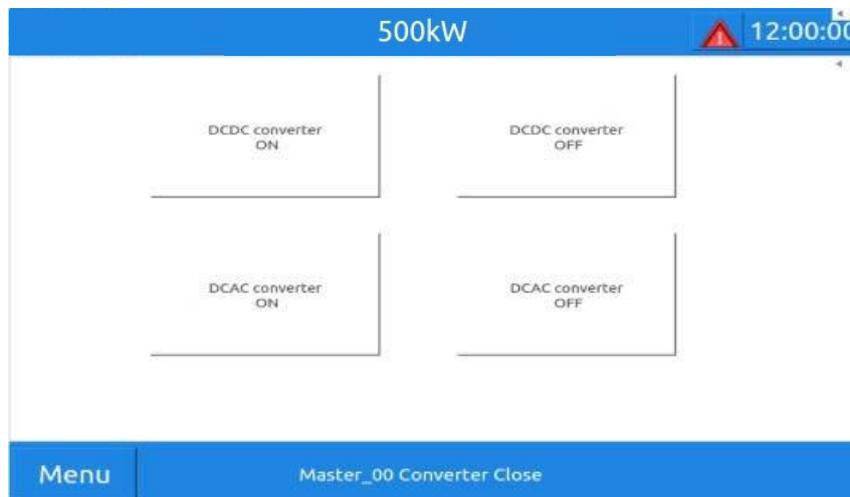

Figure 7-4 Startup and shutdown main interface
(7) The converter is turned on. Click "Menu" → "Switch" → "DCAC Inverter On" in the lower left corner of the monitor (as shown in Figure 7-4). The inverter is soft-started. After the soft-start is completed, the AC contactor pull-in sound will be heard. At this time, the status of the converter displayed in the lower corner of the monitoring main interface will change to "converter off-grid discharge" or "converter off-grid discharge". "The inverter is connected to the grid for charging" or "The inverter is connected to the grid to discharge" . At this time, the inverter is running normally.
(1) Shutdown of the photovoltaic controller. Click "Menu" → "Switch" → "DCDC Converter Off" in the lower left corner of the monitor, click "DCDC" Converter Off", and the PV controller status displayed in the lower right corner of the monitoring main interface will have "Converter xMPPT" " becomes "standby". At this time, the PV controller stops working. (As shown in Figure 7-4 above)
(2) The converter is turned off. Click "Menu" → "Switch" → "DCAC Converter Off" in the lower left corner of the monitor. After clicking "DCAC Converter Off", you will hear the AC contactor disconnecting sound. At this time, the change displayed in the lower corner of the monitoring main interface The converter status will change to "Converter closed". At this point the converter stops working.